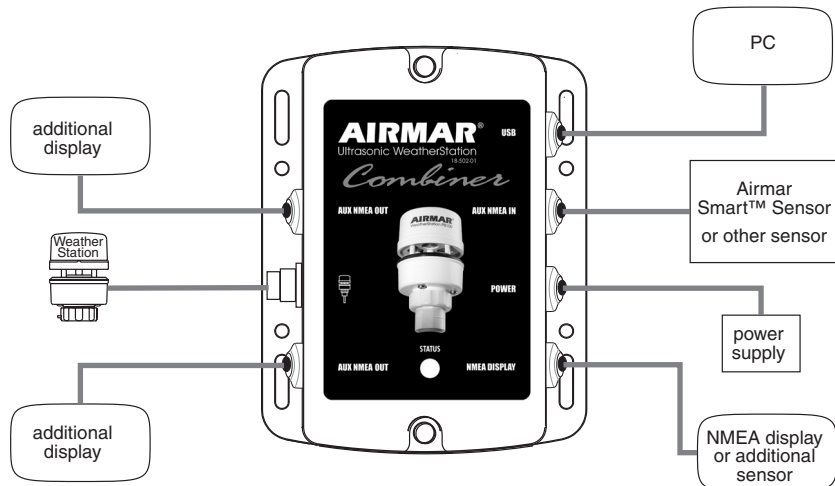
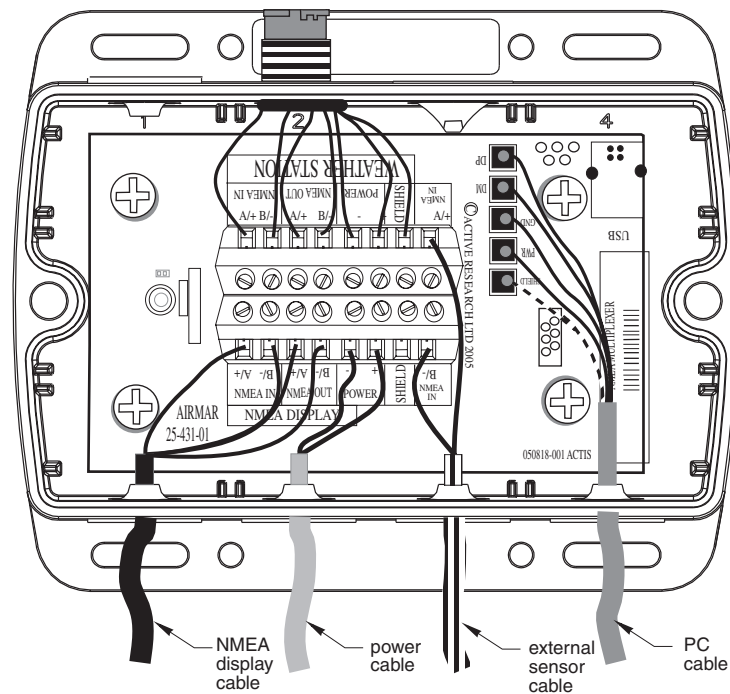

Figure 7. Combiner installation
Figure 11. Wiring an external sensor to a Combiner
The Combiner allows the WeatherStation data to be displayed simultaneously on both an NMEA display and a PC. On the Combiner, the two auxiliary grommets labeled AUX NMEA OUT can be used to connect additional devices capable of displaying WeatherStation data (see Figure 7). All display devices *must* be NMEA 0183.
4. Using a small Phillips screwdriver, puncture the grommet that corresponds to NMEA Display on the cover (see Figure 7). *Be careful* not to damage the circuit board.
To wire a device through the AUX NMEA IN grommet, use the NMEA IN terminals on the printed circuit board (see Figure 11).
3. Remove the cover of the Combiner to expose the terminals inside (see Figure 11). Using a small Phillips screwdriver, puncture the grommet that corresponds to AUX NMEA IN on the cover (see Figure 7). *Be careful* not to damage the circuit board.
4. Push approximately 200mm (8") of the cable through the grommet (see Figure 11).
4. Using a small Phillips screwdriver, puncture the grommet(s) that corresponds to AUX NMEA OUT on the cover (see Figure 7). *Be careful* not to damage the circuit board.